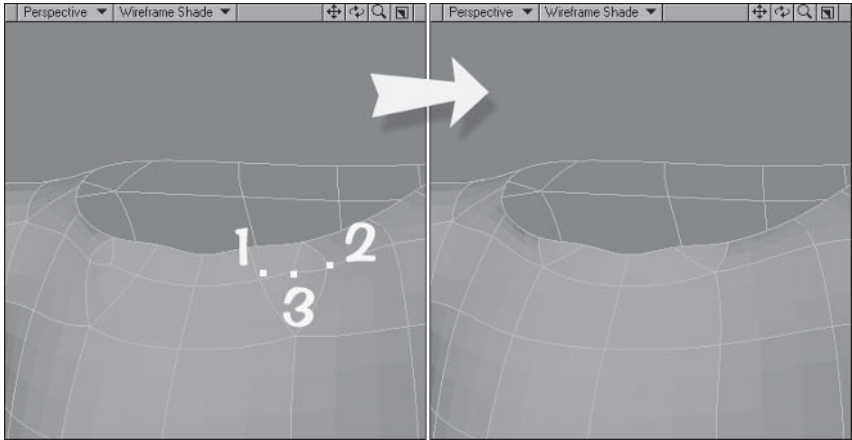

Figure 5.5-28. Cleaning up the neck area.
7. **Weld** the three points shown in Figure 5.5-28 on each side.